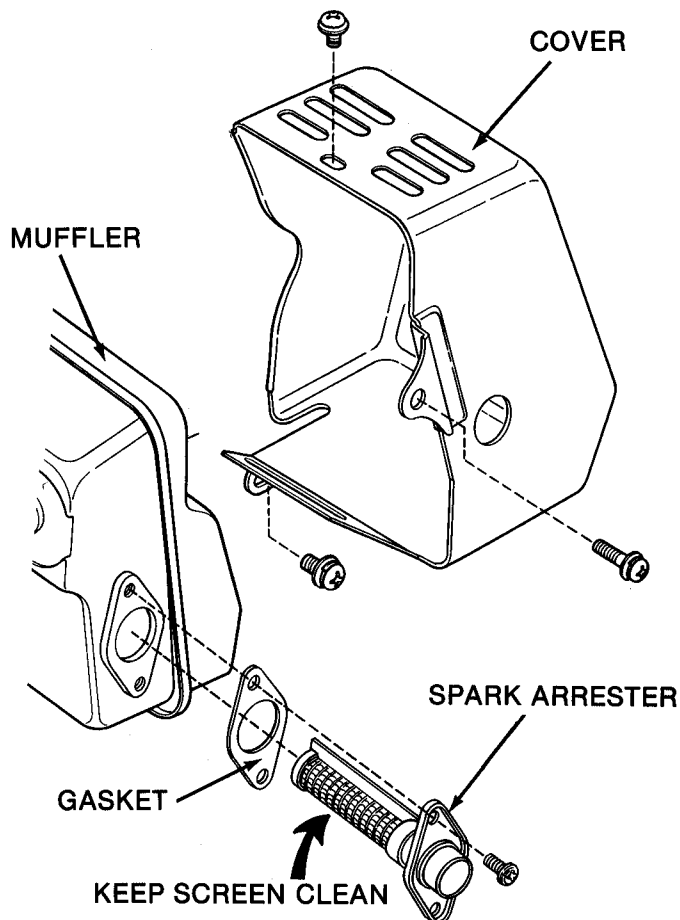

FIG. 8 - SPARK ARRESTOR DETAILS
**SERVICE** arrestor after each 5 hours of operation. After muffler parts have cooled down, take the cover off the muffler and remove the spark arrestor as shown in figure 8. Clean the arrestor screen with a wire brush. Check to make sure screen has not deteriorated to the point where sparks could escape. Replace arrestor and or gasket as needed. Reinstall components in sequence shown. **WARNING:** Never touch hot muffler or cover!
An all position diaphragm type carburetor is used on the model 4111. The carburetor has a fixed main jet but has adjustable idle speed and idle mixture adjustments. Do not tamper with these adjustments. If the engine will not start, stalls at idle or stalls under rapid acceleration, and the cause is not due to the air cleaner or muffler, or fouled plug readjust the carburetor as follows. Refer to figure 8 for adjustment points.